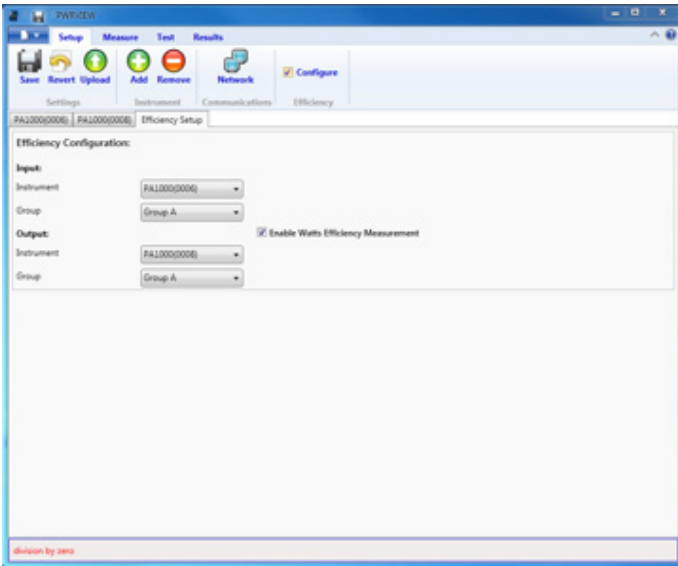

Figure 15. Efficiency configuration.
- This will open a new tab for input and output selection as shown in Figure 15.